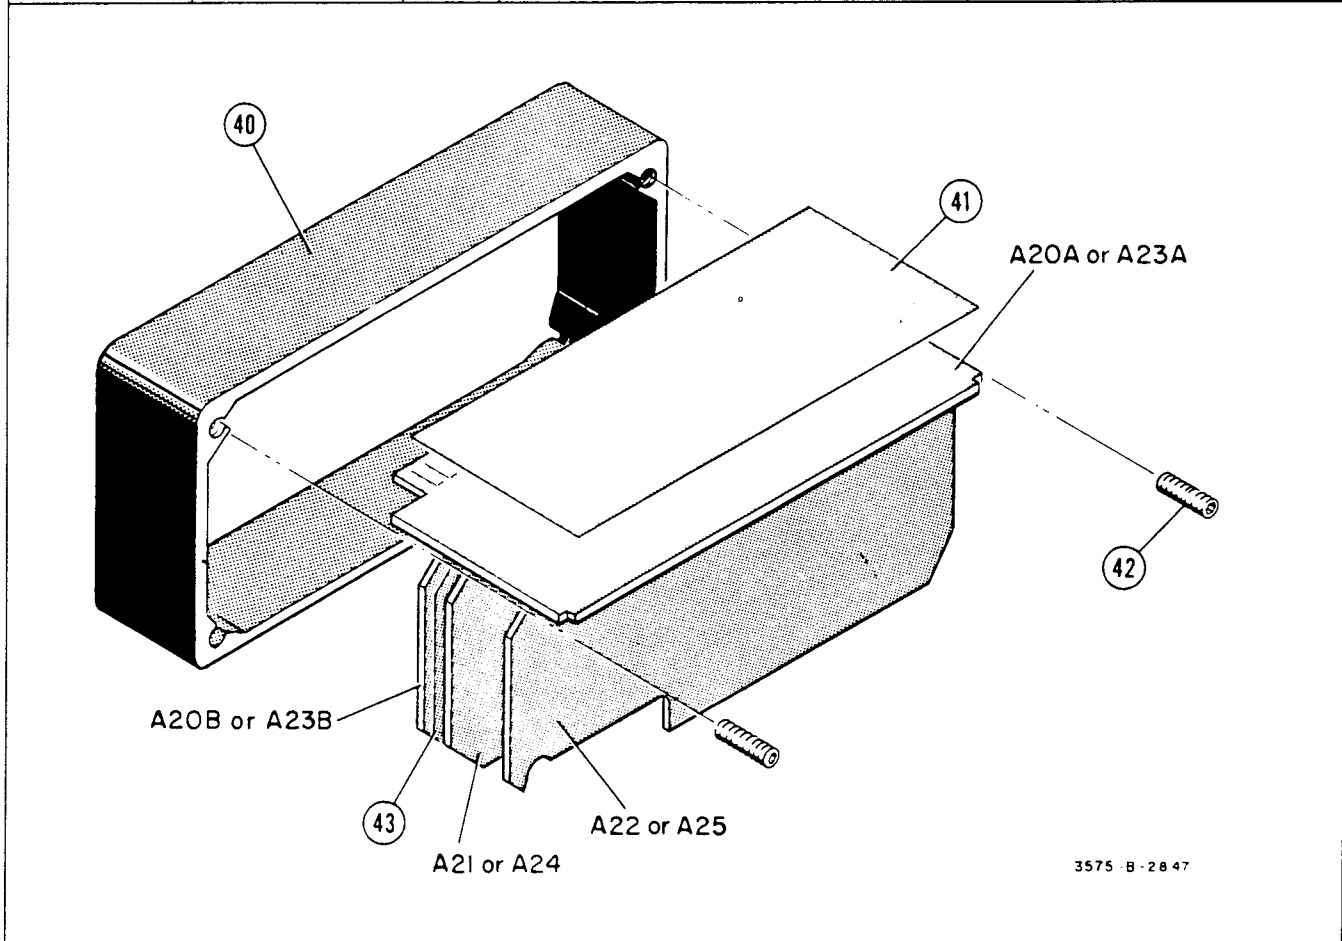

Figure 6-2 Mechanical Parts (Panel Frame)
4. For repair or additional troubleshooting, remove two screws that fasten the Panel Meter boards together (MP42 Figure 6-2). Carefully and slowly unfold the Panel Meter. Do not bend the interconnecting wires further than necessary or more often than necessary.